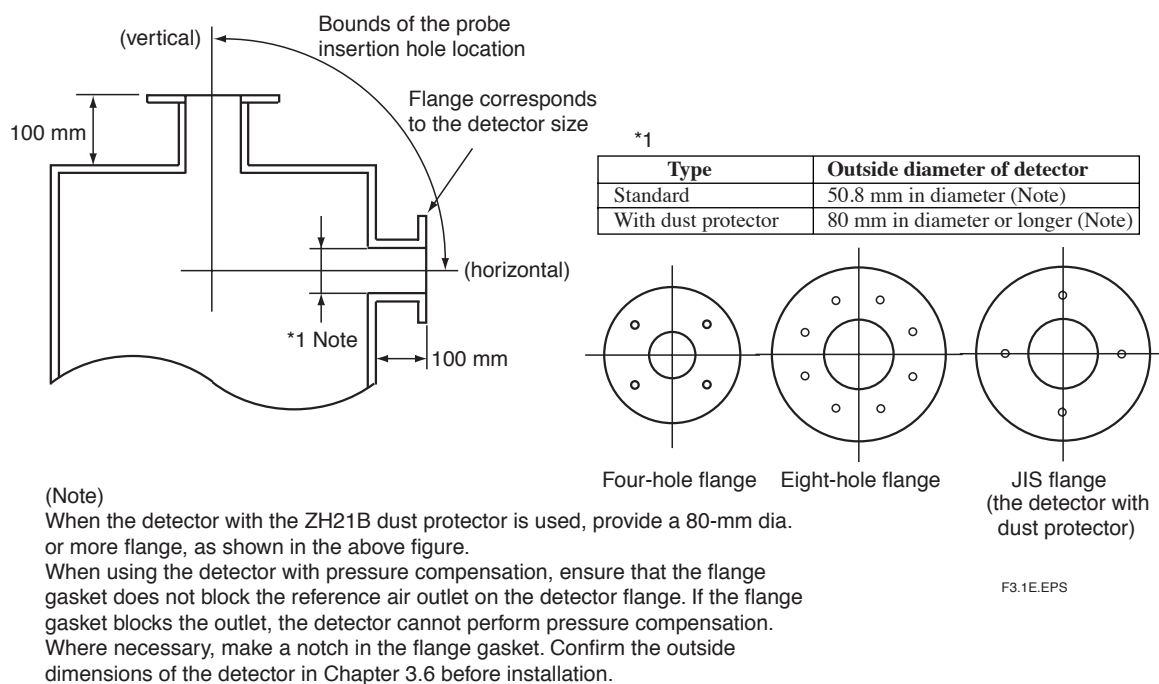

Figure 3.1 Example of Probe Insertion
- The outside dimension of detector may vary depending on its options. Use a pipe that is large enough for the detector. Refer to Figure 3.1 for the dimensions.
- (1) Do not orient the end of the detector probe upwards.
- (2) If the probe length is 2.5 meters or longer, mount the detector vertically (no more than a 5° tilt).
- (3) Position the detector probe perpendicular to the measurement gas flow, or point the tip downstream.
Figure 3.1 illustrates an example of the probe insertion.